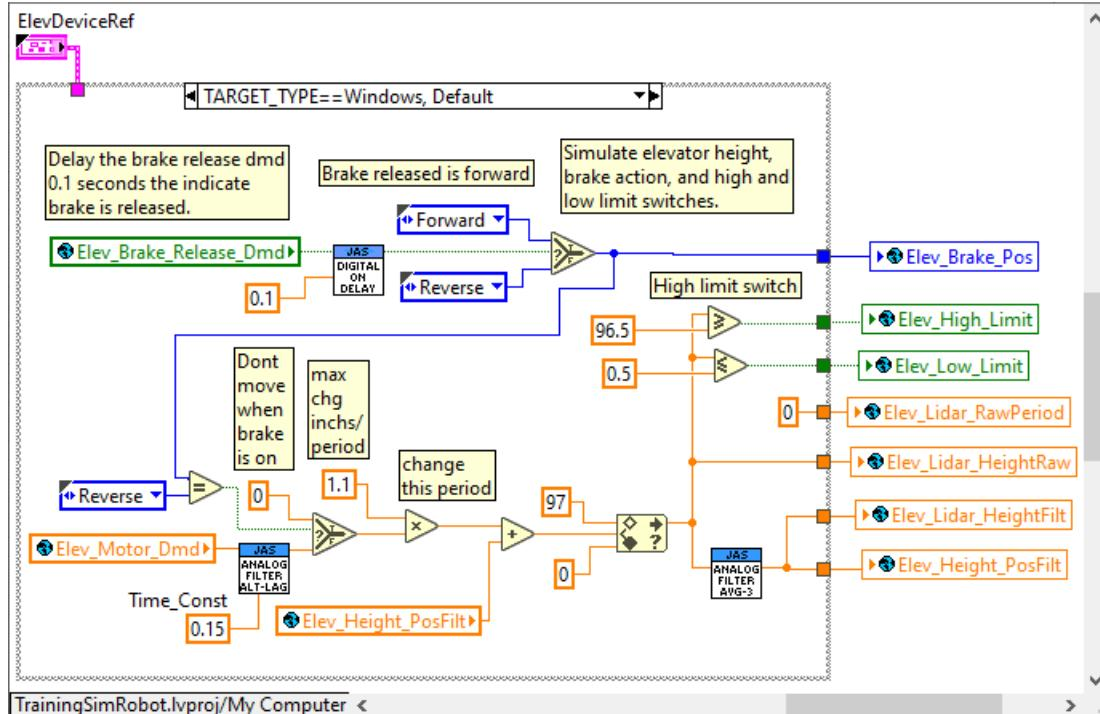

FIGURE 9.10 Use of Conditional Disable to provide simulation of elevator height in “acquire” routine.
- Also use Conditional Disable structures to enable simulation code to be executed instead of WPI calls to read sensors. Fig. 9.10 and 9.11 show sensor reads and simulation of an elevator height, which would normally have been read from a LIDAR sensor. Often all that is needed for reasonable simulation is some code to simulate a time lag.